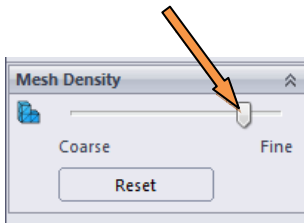

Figure 7 – Mesh Density Slider option
3. Under Mesh Density drag the slider toward Fine stopping in the approx. location shown in Fig. 7.